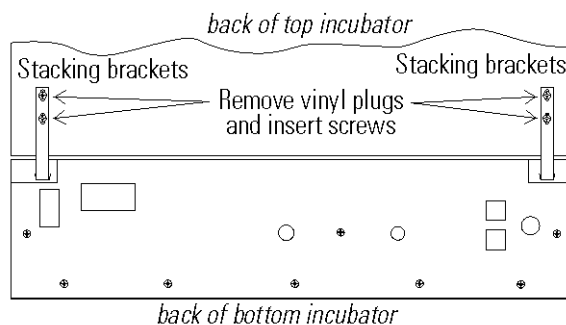

Figure 1-6. Brackets Installed
7. Insert the stacking brackets into the slots on the back of the control panel of the bottom unit as shown in Figure 1-6.